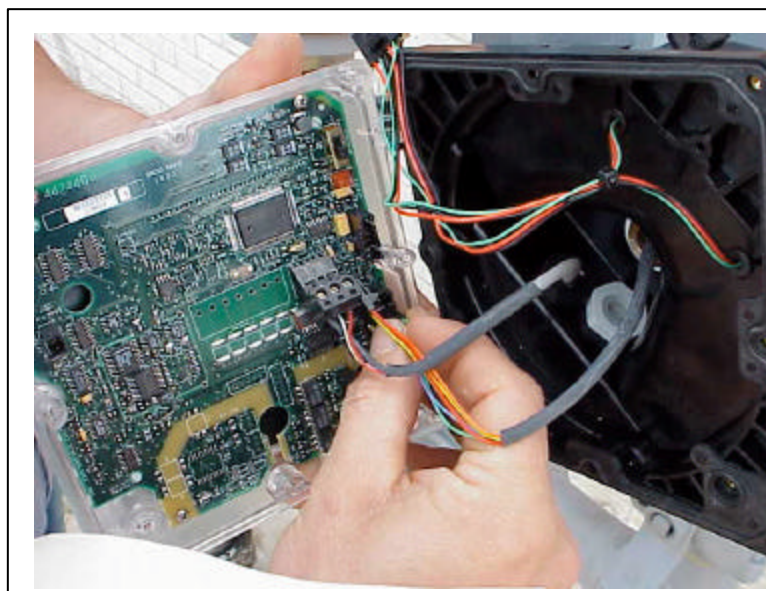

Figure 7.12 Sensor Connection
13. Plug in meter sensors to new index (Connector with Orange/Yellow replaced closest to battery connection) board. **See Figure 7.12**